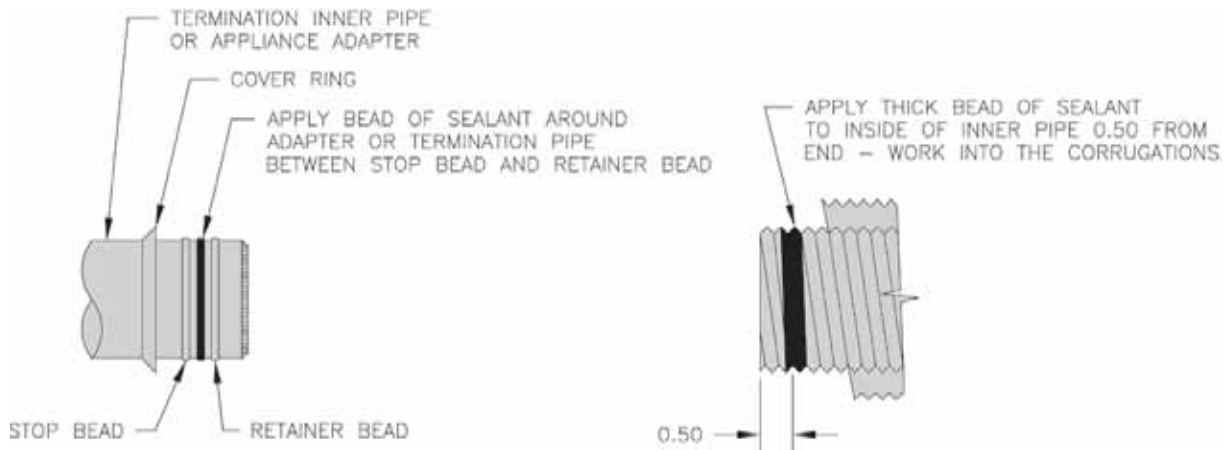

Figure 31: Vent Pipe Ends, Vent Termination and Appliance Adapter Sealing
7. Apply sealant; firstly, between the stop bead and retainer bead at the end of the vent termination inner pipe; secondly, between the stop bead and retainer bead at the end of the appliance adapter. See Figure 31.
10. Apply a thick bead of sealant to inside of each end of the inner vent pipe, 1/2" from pipe end, working the sealant into the inner vent pipe corrugations. See Figure 31.